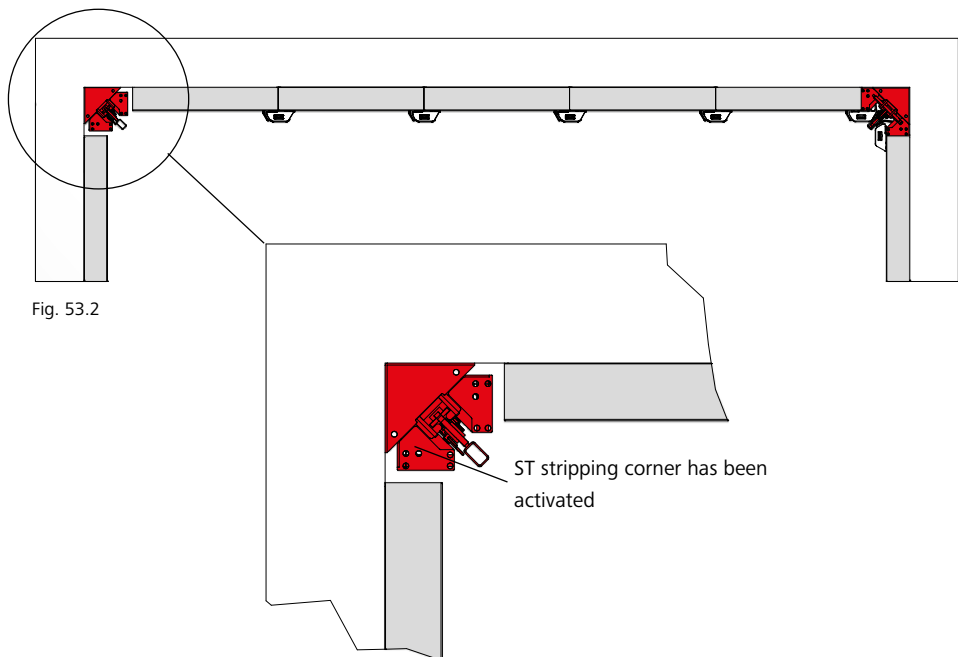

Fig. 53.2
2. Activate the ST stripping corner (Fig. 53.2 and pages ST-XT-50 to -52).